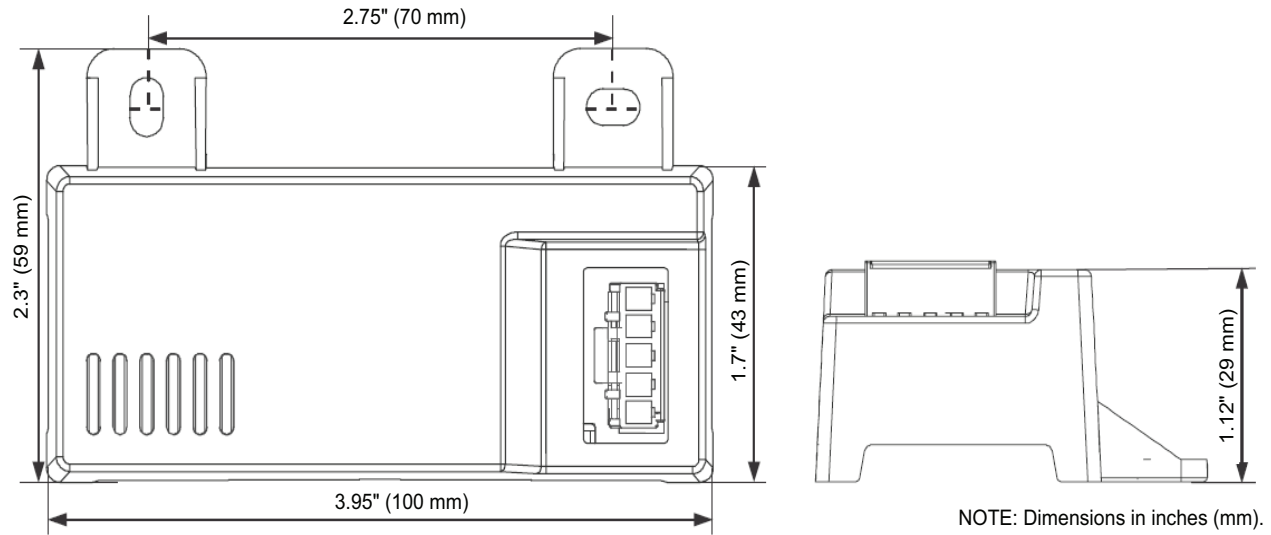
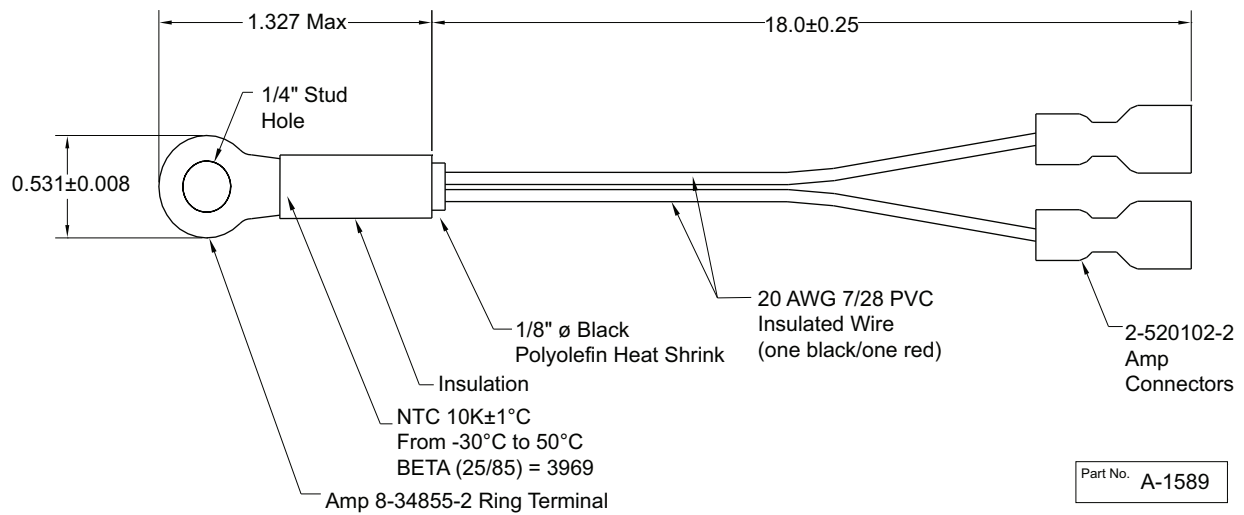
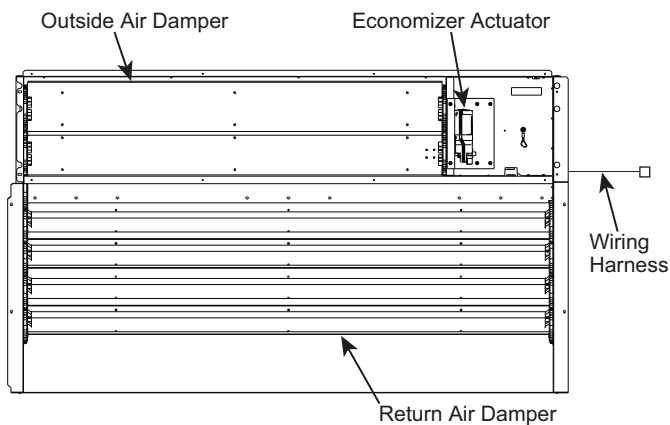

Fig. 83 – HH57LW001 Dimensional, Connection and Switching Information
Fig. 84 – HH79NZ039 Dry Bulb and Mixed Air Sensor Wiring
Fig. 85 – EconomizerONE System Component Locations
When using the HH57LW001 enthalpy sensor (see Fig. 83) for outside air changeover, the existing HH79NZ039 dry bulb sensor (see Fig. 84) must be removed. The enthalpy sensor will be mounted in the same location as the dry bulb sensor (see Fig. 85). When the enthalpy sensor's OA (Outside Air) temperature, enthalpy, and dew point are below their respective set points, outside air can be used for free cooling. When any of these are above their set point, free cooling will not be available. Enthalpy set points are configurable and create an enthalpy boundary according to the user's input. For additional details, see Fig. 86-87 and Table 29.
The optional enthalpy control sensor (P/N: HH57LW001) communicates with the POL224 economizer controller using the 5-wire harness, 48TC005213. The HH57LW001 sensor can be used as a single outside air enthalpy, a differential return enthalpy, or a differential return temperature sensor. Refer to the base unit control wiring diagrams found earlier in this book to wire the HH57LW001 enthalpy sensor for each option. See Fig. 83 and Table 31 on page 75 to locate the wiring terminals for each enthalpy control sensor.
Economizers are shipped standard with an HH79NZ039 outside air dry bulb sensor (refer to Fig. 84). System default setting (high temp limit) is 63°F (17°C) and has a range of 48°F to 80°F (9°C to 27°C). Sensor is factory installed on economizer.
If installing the optional HH57LW001 enthalpy sensor, the HH79NZ039 dry bulb outside air sensor must first be removed. Wire sensor to harness 48TC005213 and the (5) wires from the harness to the EconomizerONE harness in the return air chamber. Harness 48TC005213 has a 5-pin plug that connects directly to the HH57LW001 enthalpy sensor. Refer to the base unit control wiring diagrams earlier in this book for wiring connections. Refer to Fig. 83 and see Table 31.